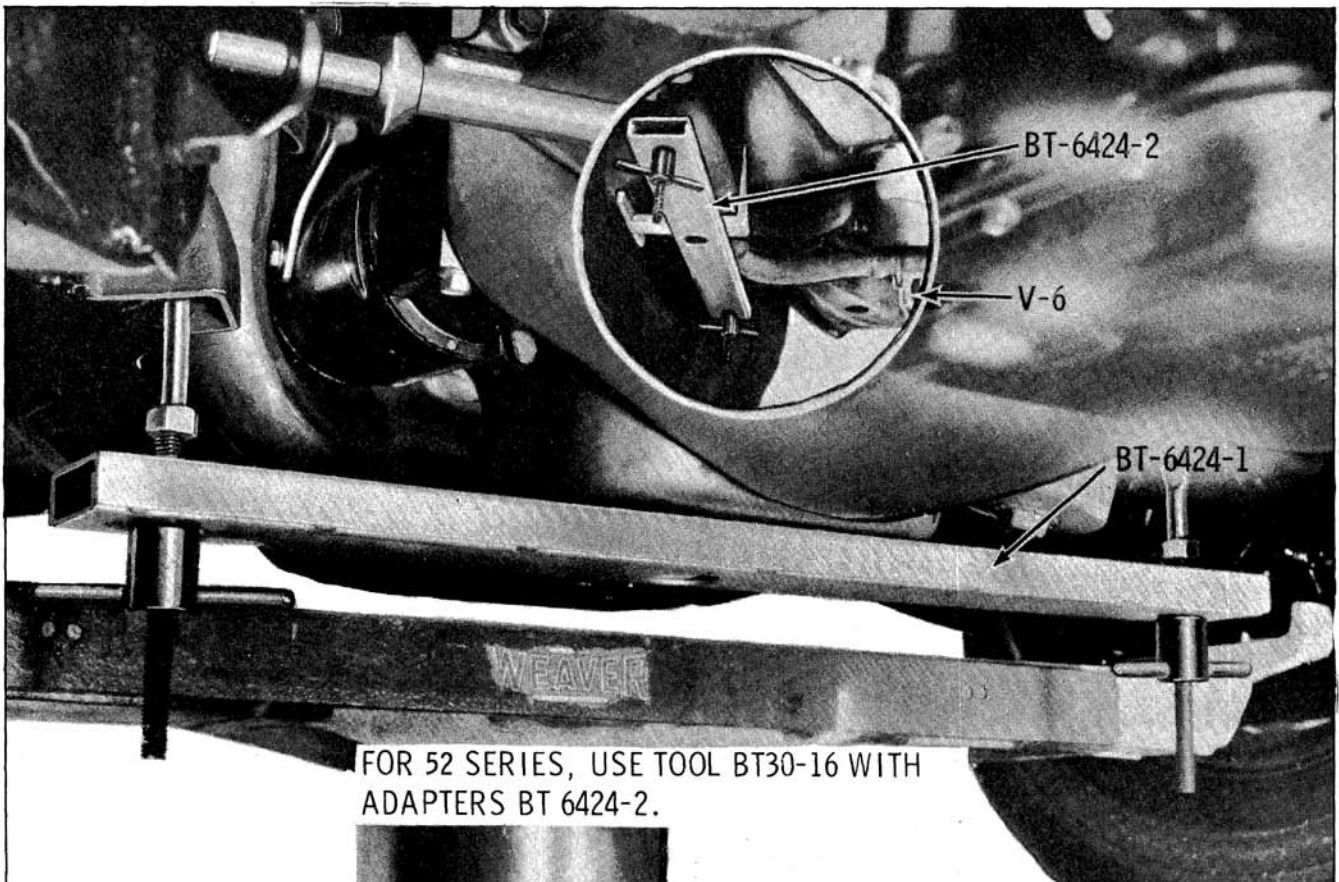

Fig. 6-342 Engine Support Bar
**ENGINE SUPPORT BAR (Fig. 6-342)**